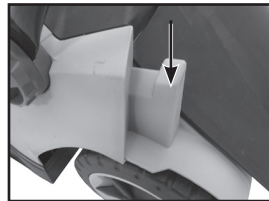

Fig. 7
The grass catcher (5) must be attached to the two raised hooks on either side of the mower (Fig. 7).